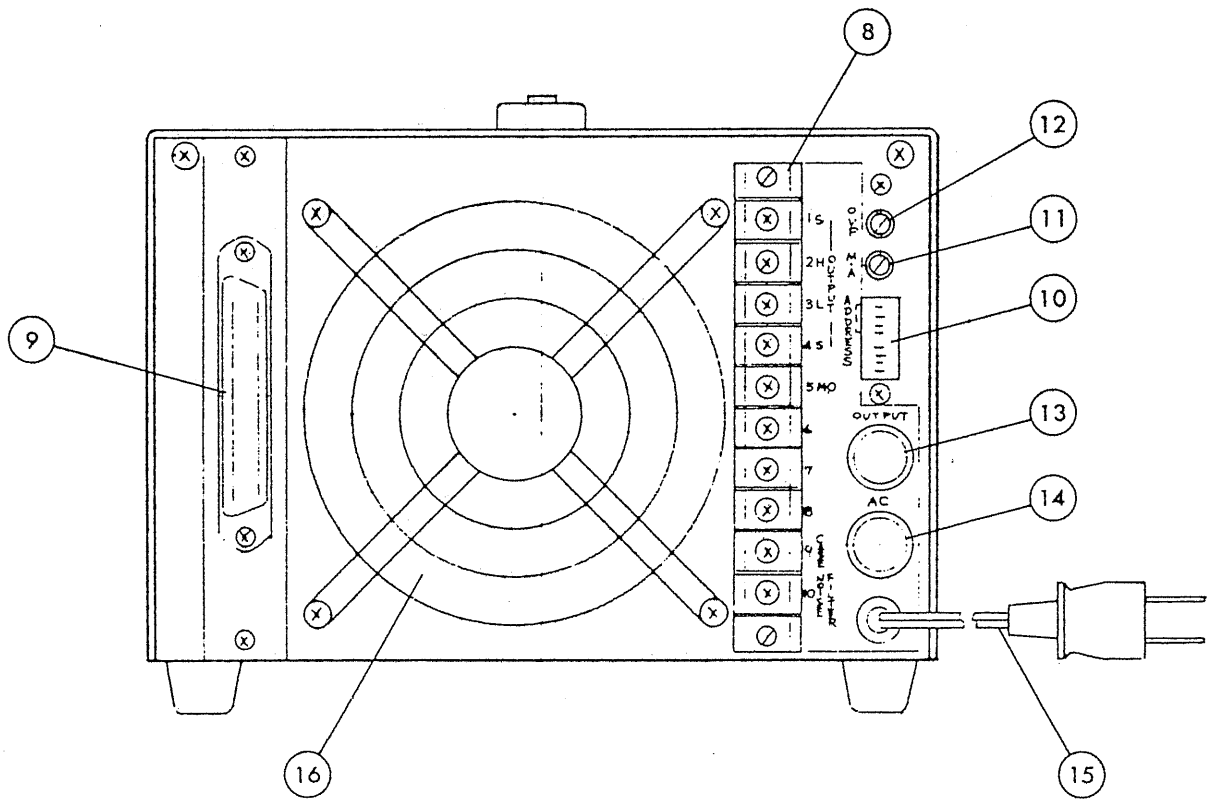

Figure 3-2
3.2 Description of Rear Panel (See Figure 3-2.)
⑧ Terminal block: